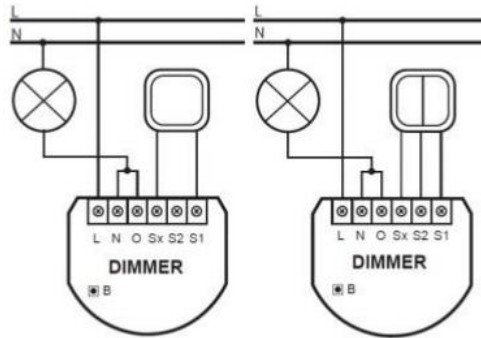
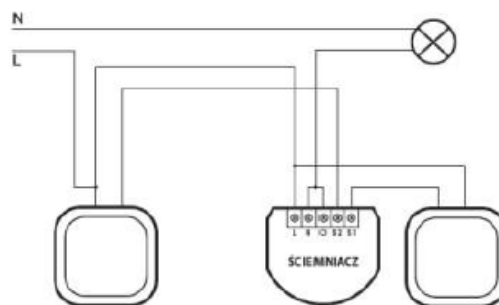

Fig.3 Wiring diagram for connect the Dimmer-2-wire connection
Fig.5 Wiring diagram for connect the Dimmer-3-way connection
- 2) Connect the dimmer in accordance with the wiring diagram presented on Fig.3 ~ Fig.5.